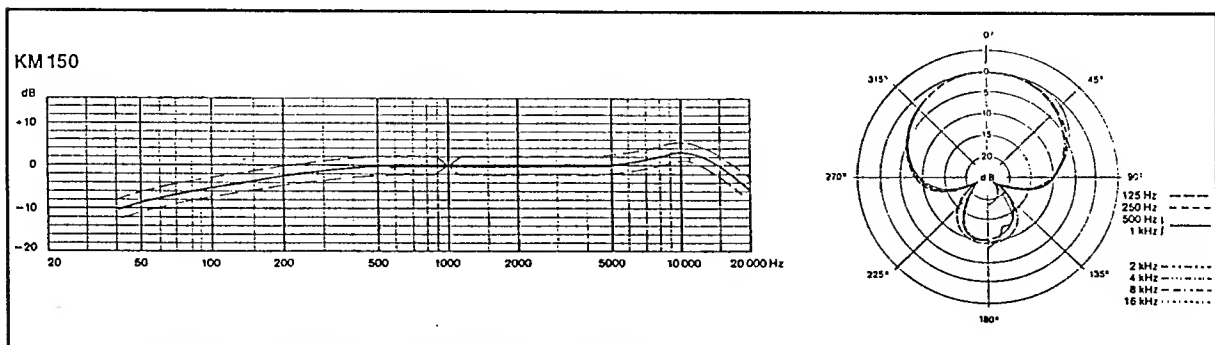

Fig. 8 Microphone with AK 50 hypercardioid capsule
- d) Whereas a “cardioid” suppresses sound impinging from the side by 6 dB and is most insensitive to sound from the rear (approx. -20 dB ref. 0° sound incidence), it can sometimes be advantageous to obtain a narrower “focusing” of the sound in the front half-space. This can be achieved with a hypercardioid capsule (Fig. 8), which suppresses sound impinging from the side by 10 dB, and has as its region of lowest sensitivity the generated surface of a 120° cone about the microphone axis. It must be added, however, that the sensitivity coefficient of this type of transducer with regard to sound from the rear (120°...180°) undergoes an increase, and rearward sound is suppressed by “only” 10 dB.